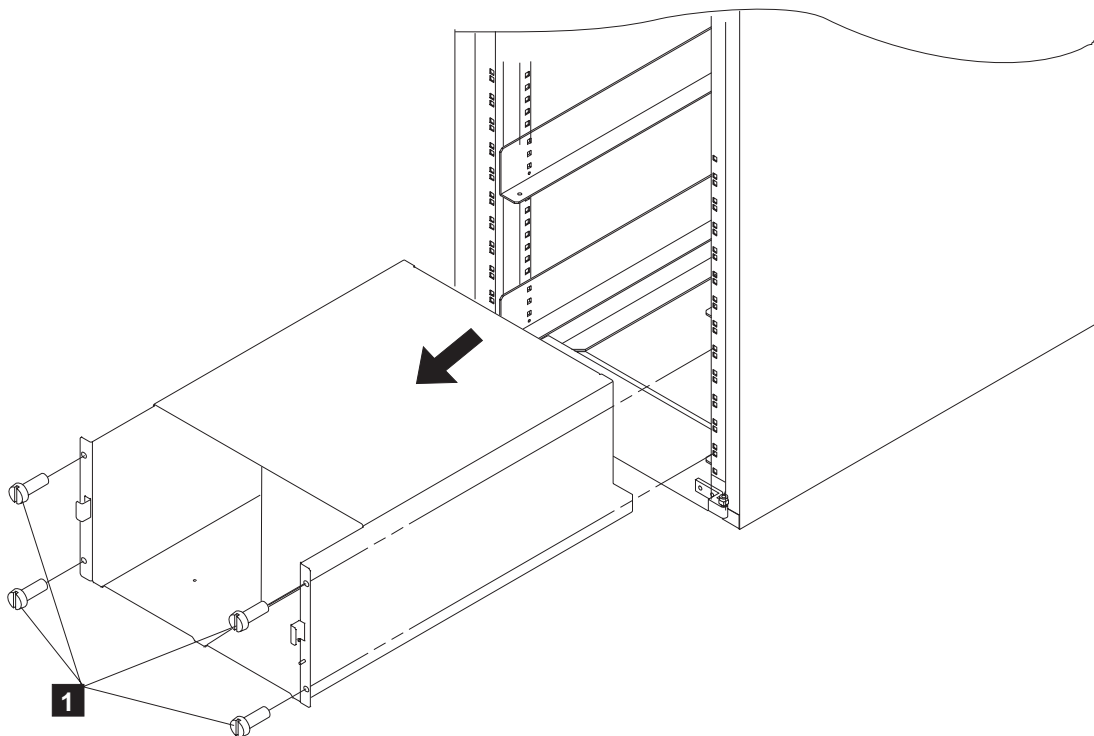

Figure 3-6. Removing the Power Subrack
6. Refer to Figure 3-6, on the front side of the rack remove the four screws **1** and remove the power subrack from the 2220-501.